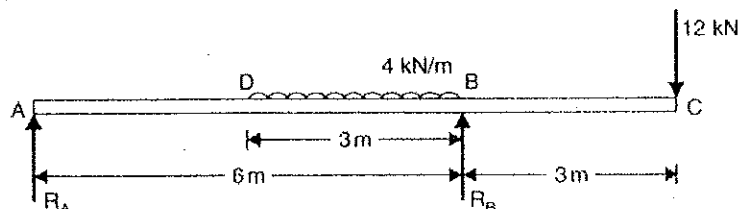

Fig. Q2
- (b) A beam ABC of length 9m has one support at the left end and the other support at a distance of 6m from the left end. The beam carries a point load of 12 kN at right end also carries a uniformly distributed load of 4 kN/m over a length of 3m as shown in Fig. Q2. Determine the slope and deflection at point C. Take $E = 2 \times 10^5 \text{ N/mm}^2$ and $I = 5 \times 10^8 \text{ mm}^4$.